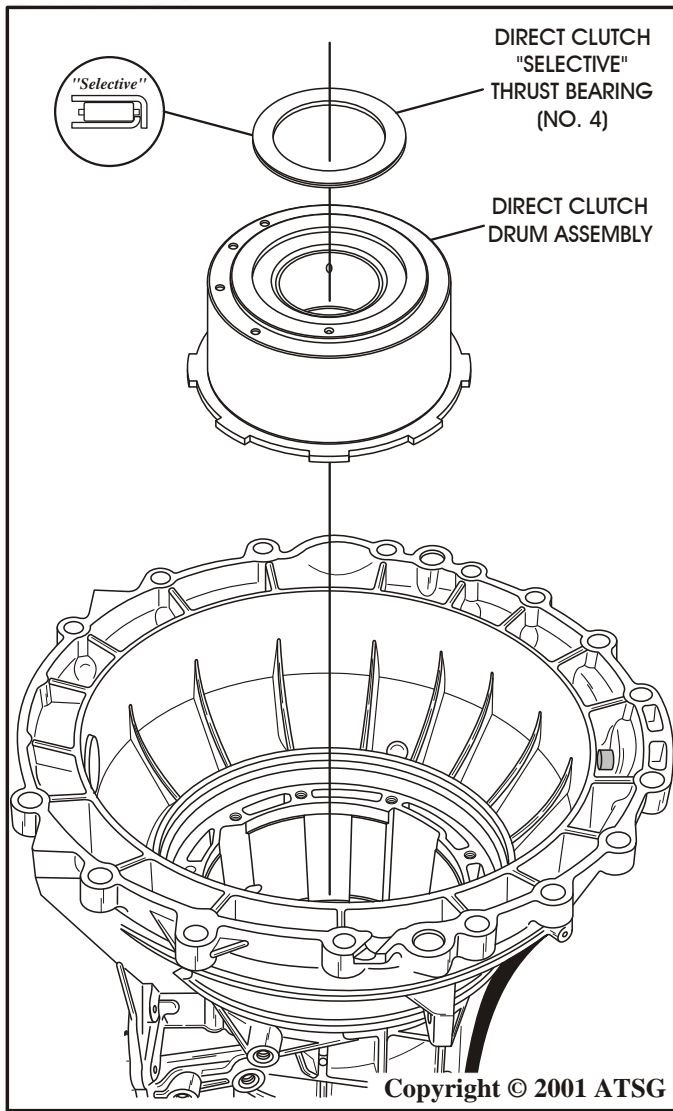

Figure 153
35. After you have recorded the first measurement, install the pre-assembled direct clutch housing, as shown in Figure 153, by rotating back and forth until fully seated.
36. Install the number 4 thrust bearing in position on the direct clutch drum, in the direction that is shown in Figure 153.